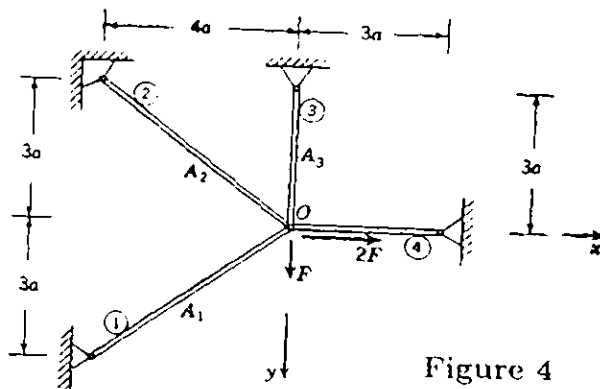

Figure 4
- (35) 3. Consider the planar pinned truss illustrated in Figure 4. The bars are joined by frictionless pins and each bar satisfies Hooke's law,